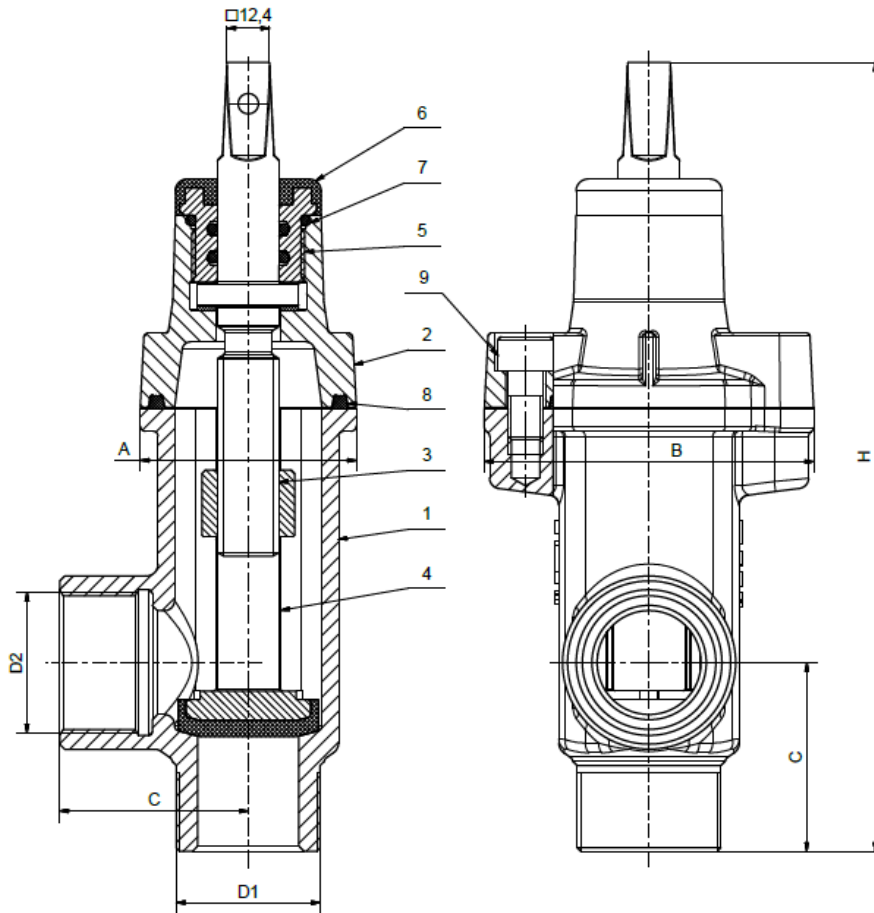

Fig. 1 – The construction of angle valves T.
1.3 Construction and principle of operation (Fig.1, Tab.2)
The main parts of the valve are shown on the fig.1.